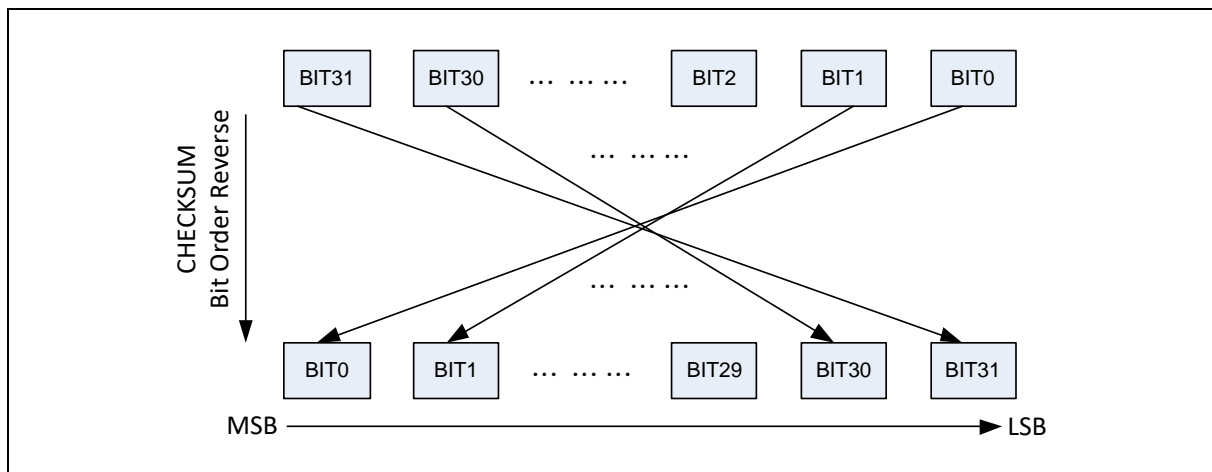

Figure 6.35-2 CHECKSUM Bit Order Reverse Functional Block
- 2) Configure bit order reverse for CRC checksum by setting CHKSREV (CRC_CTL[25] Checksum Bit Order Reverse). The functional block is also shown in Figure 6.35-2 CHECKSUM Bit Order Reverse Functional Block